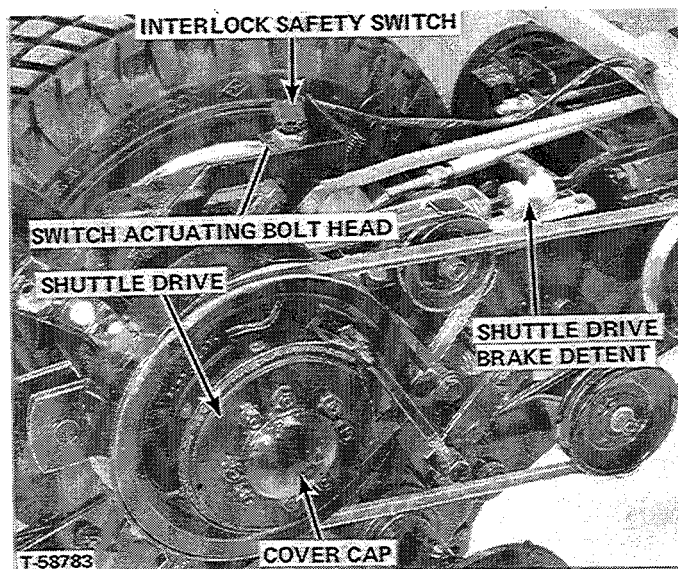

FIGURE 19 - (Seat, Seat Deck and R.H. Wheel Removed)
2. Apply a small amount of grease to the pin and groove of the shuttle drive brake detent and to the head of the bolt that actuates the interlock safety switch when gear shift lever is in neutral (Figure 19).
3. Every 100 hours or once a year block up rear of tractor and remove right hand rear wheel. With a screwdriver remove the cover cap from the shuttle drive (Figure 19). Force pressure gun grease into the space around the differential and pinion gears. Replace cover cap.